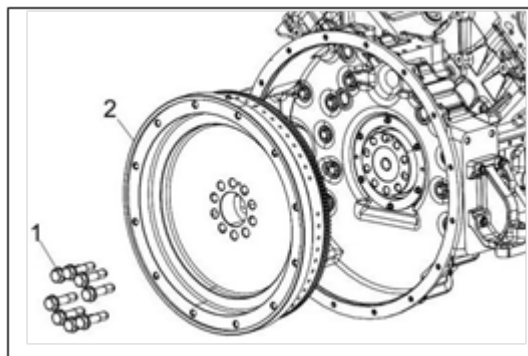

Figure 108.
3. Remove all the flywheel fixing bolts (Figure 108, item 1).
5. Remove the flywheel (Figure 108, item 2) from the crankshaft.